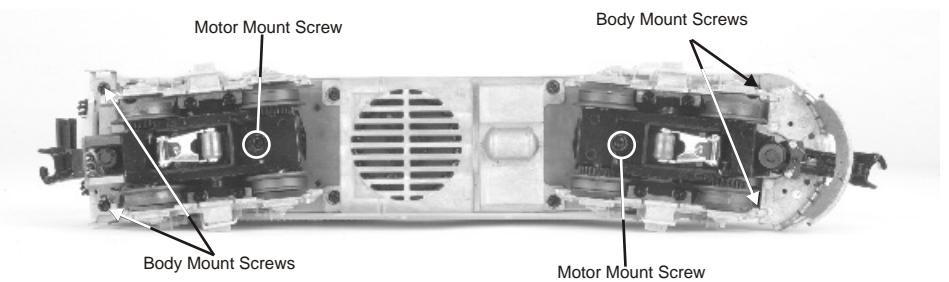
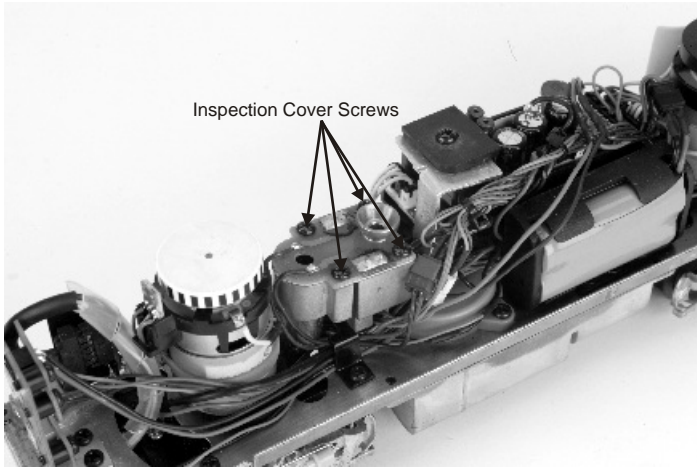

Figure 6. Body Removal Screw Locations
Figure 11. Inspecting the Smoke Unit Wick
1. To access the gear box, remove the cab from the chassis by unscrewing the body mount screws as seen in Figure 6 and lifting the cab from the chassis.
2. Once the cab is removed, remove the trucks by unscrewing the black Phillips motor mount screw located on the underside of the drive trucks (see Fig. 6).
If you experience poor or no smoke output when the smoke unit is on and has fluid, check the wick to see if it has become hard, blackened, and unabsorbent around the heating element. After removing the locomotive body from its chassis (See Figure 6), remove the smoke unit inspection cover (see Fig 11). After removing the inspection cover screws, lift the inspection plate away and inspect the wick. If it is darkly discolored and hard, it should be replaced.